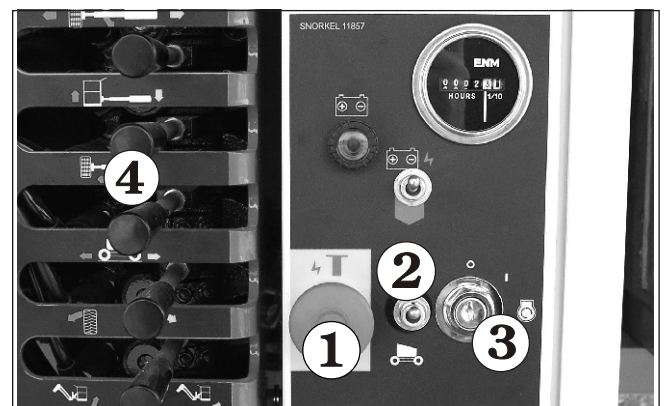

Figure 7.1—Ground Controls
Use the following procedure to operate boom or platform functions using the lower controls (refer to Figure 7.1).
1. At the lower controls, insert the key into the master switch² (refer to Figure 7.1) and turn the switch on.
2. Switch to platform operation³ (refer to Figure 7.1).